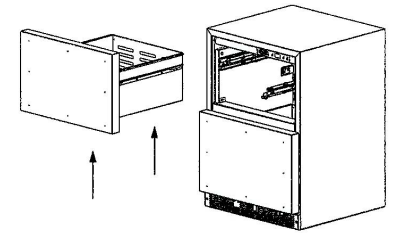
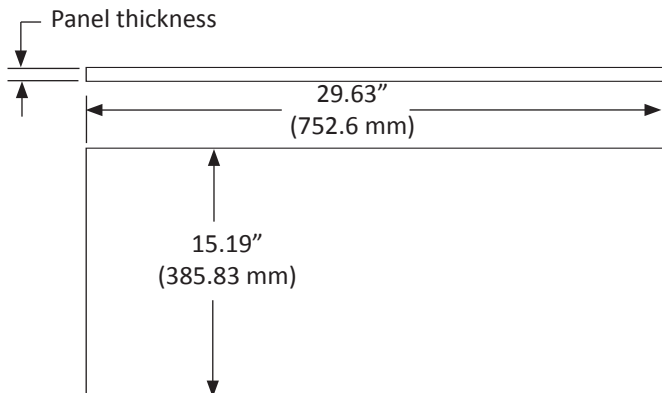

Figure 10
Figure 14
2. Remove the gasket from the drawer front. (See Figure 10). Do this by pulling the gasket out of the channel that holds it to the drawer front. This will expose the clearance holes for mounting the overlay panel. (See Figure 14).
1. Set the overlay panel on drawer front face and align edges. (See Figure 14 below). Clamp panel in position and mark pilot hole locations. Pick the required pilot hole size from "Table A" below and drill the pilot holes ensuring not to drill all the way through the overlay panel.